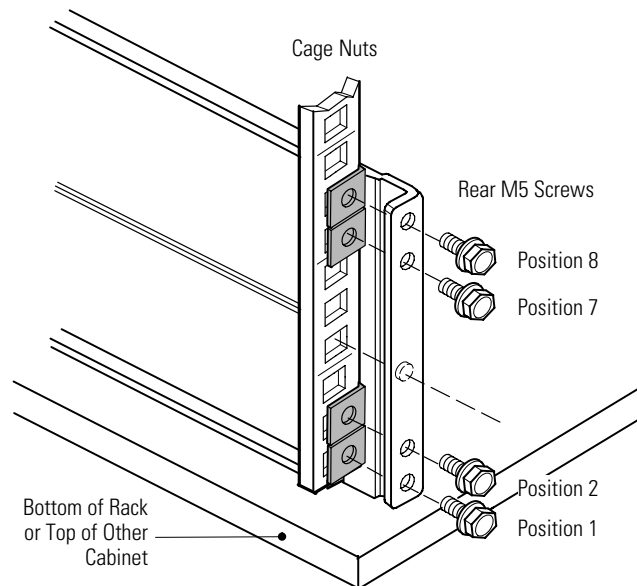

Figure 20. Securing the Rear Rail (Right Rail Assembly Shown)
5. Secure the rail to the rear of the rack with four M5 machine screws and clip or cage nuts (see Figure 20).